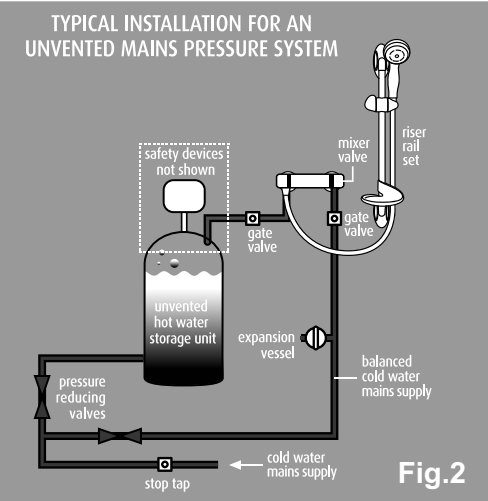

Fig.2
b) Unvented Mains Pressure Systems (Fig.2)